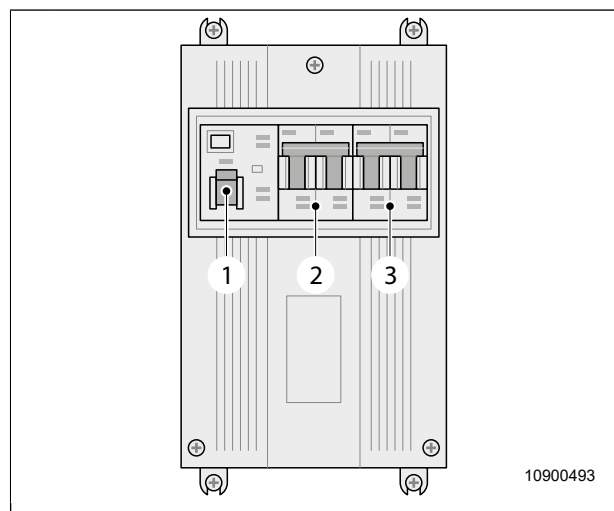

Fig. 53 Automatic circuit breaker
When connected to an external 230-volt power supply, the vehicle is protected by the fuses (Fig. 53, item 2) ground-fault circuit breaker (Fig. 53, item 1) in the automatic circuit breaker.
The air conditioning (optional accessory) is also protected by the automatic circuit breaker (Fig. 53, item 3).